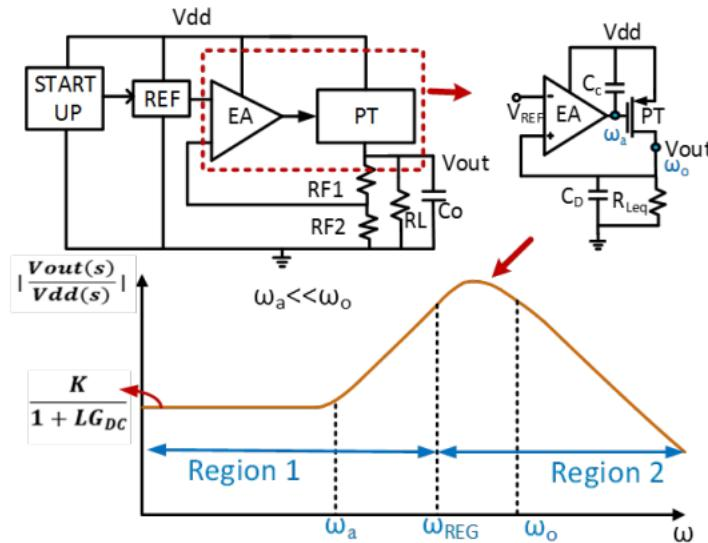

Figure 12: : Block diagram of a low drop-out (LDO) regulator and its associated PSRR curve (linear scale)
LDOs are essential components in the power supply of most ICs. They provide a ripple-free, stable fixed output voltage; isolating it from the input noise. An LDO has several important performance specifications and the power supply rejection ratio (PSRR) is one of them. PSRR is a quantitative measure of the attenuation of input ripples by the LDO at its output. These ripples can originate from various parts of the circuit, like DC/DC converters or shared power supplies of other circuit blocks. PSRR is expressed as $\text{PSRR} = 20\log(v_{\text{out}}/v_{\text{in}})$, where v_{out} and v_{in} refer to magnitudes of input and output ripples. In Figure 12, the PSRR of LDO is divided into two distinct regions (region 1 and region 2). Region 1 covers the low and mid frequency range till the regulator bandwidth frequency (ω_{REG}), where PSRR primarily depends on the loop gain (LG) of the regulator. Region 2 starts after ω_{REG} , where PSRR is independent of LG and is dominated by output parasitics, PCB impedance, etc.